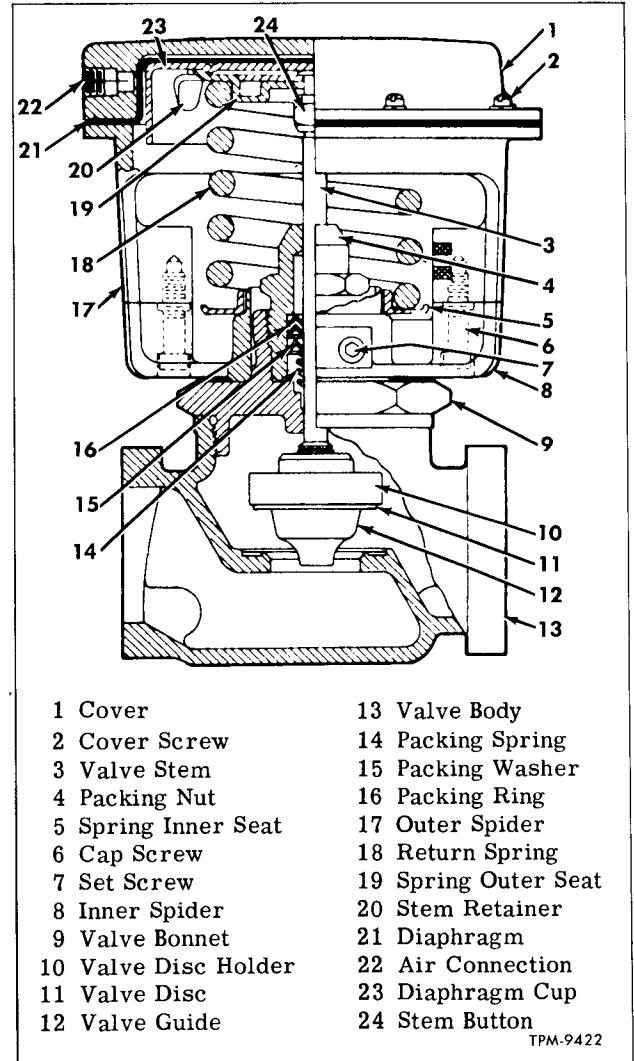

Figure 20—Water Modulation Valve
Water modulation valve (fig. 20) is an air operated water control valve installed in heater water lines. Valve is accessible after removing access cover mounted on floor above valve (fig. 6) on transit models and after removing cover plate on floor under last seat (fig. 7) on suburban models.
NOTE: The packing nut (4, fig. 20) is self-adjusting; excessive tightening will not stop packing from leaking. The packing must however, be threaded completely into bonnet.
NOTE: Key numbers in text refer to figure 20.
2. Assemble valve holder (10), valve disc (11) and valve guide (12) on end of valve stem (3) and tighten firmly.
3. Apply light silicone lubricant to packing rings (16) and to interior of packing nut (4), then insert stem through bonnet (9) and install packing spring (14), packing washer (15), one packing ring (16), another packing washer, remaining two packing rings (16), and packing nut (4) onto valve stem (3) in sequence mentioned. NOTE: Turn packing rings on valve stem threads with the spot of paint on each ring facing outward from valve body. Rings must be positioned as shown in figure 20. Screw packing nut (4) into bonnet (9) and then tighten nut firmly.
4. Thread stem button (24) on end of valve stem to a distance whereby over-all length of stem with stem button and valve guide equals measured length recorded prior to disassembly.
5. Attach outer spider (17) to inner spider (8) with two screws (6); then position spiders over bonnet (9) and secure with two set screws (7).
6. Position valve return spring inner seat (5), return spring (18), and spring outer seat (19) over valve stem in sequence mentioned; then compress spring and engage stem retainer (20) on end of stem (3).
7. Position diaphragm cup (23) over outer spring seat (19); then position diaphragm (21) over